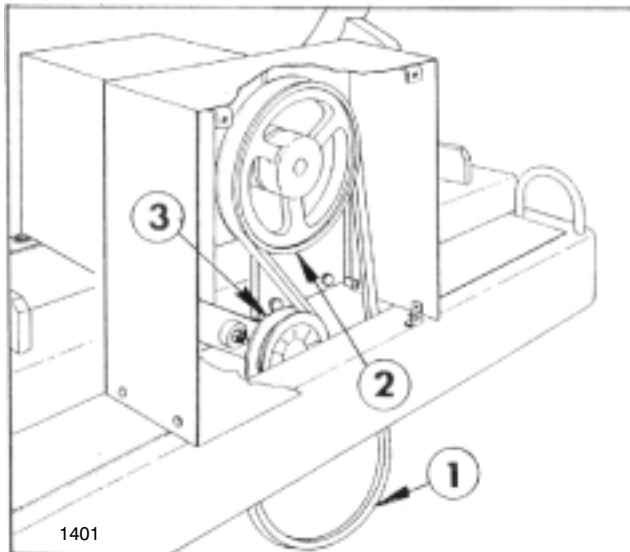

FIG. 5
17. Remove the Knobs to release the hinged door on the Belt Cover and install the Spreader Spring as shown in FIG. 5. Install the Drive Belt between the Gear Reducer Pulley and the Workman's Electric Clutch Pulley. Close the cover and re-install Knobs.